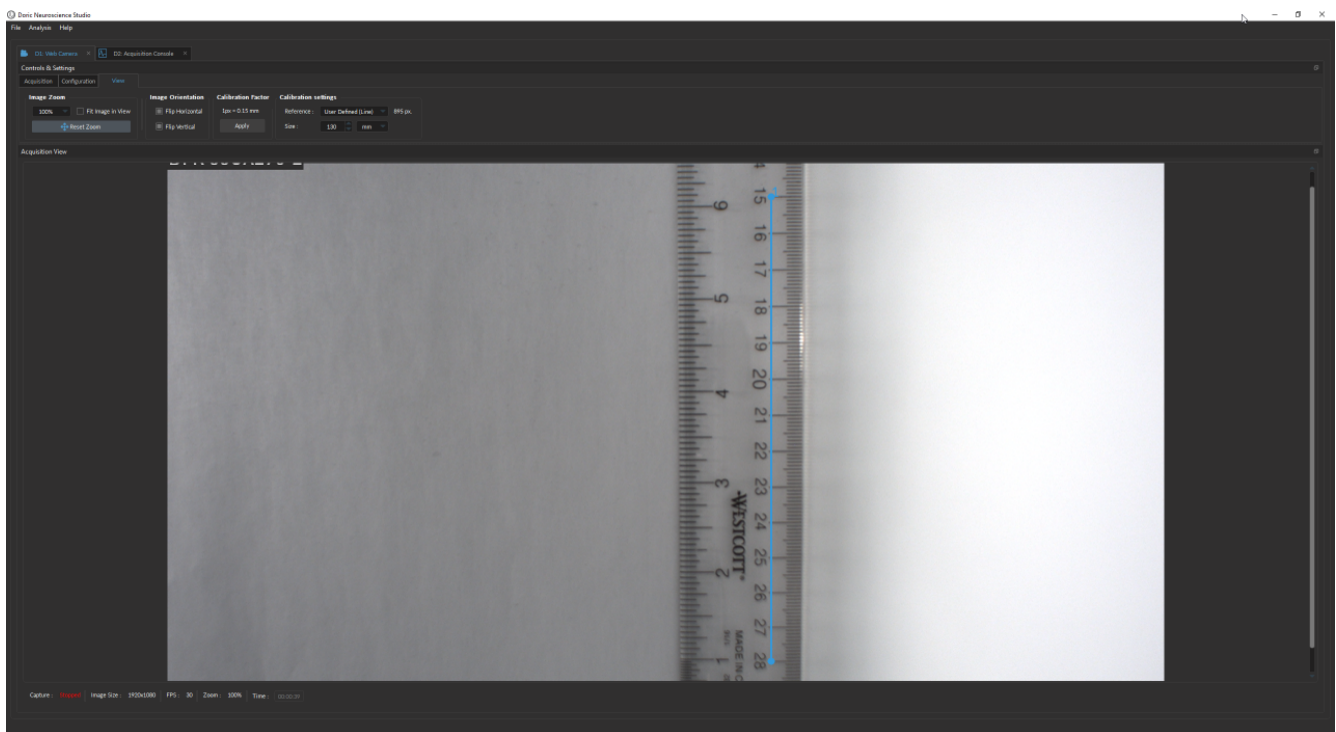

Figure 6.8: Camera Module - Calibration User-defined line
- A *User Defined (Line)* - uses a user-drawn line within the image as a reference (Fig. 6.8). This line can online be horizontal or vertical. For optimal results use an object/dimension that fills most of the image.